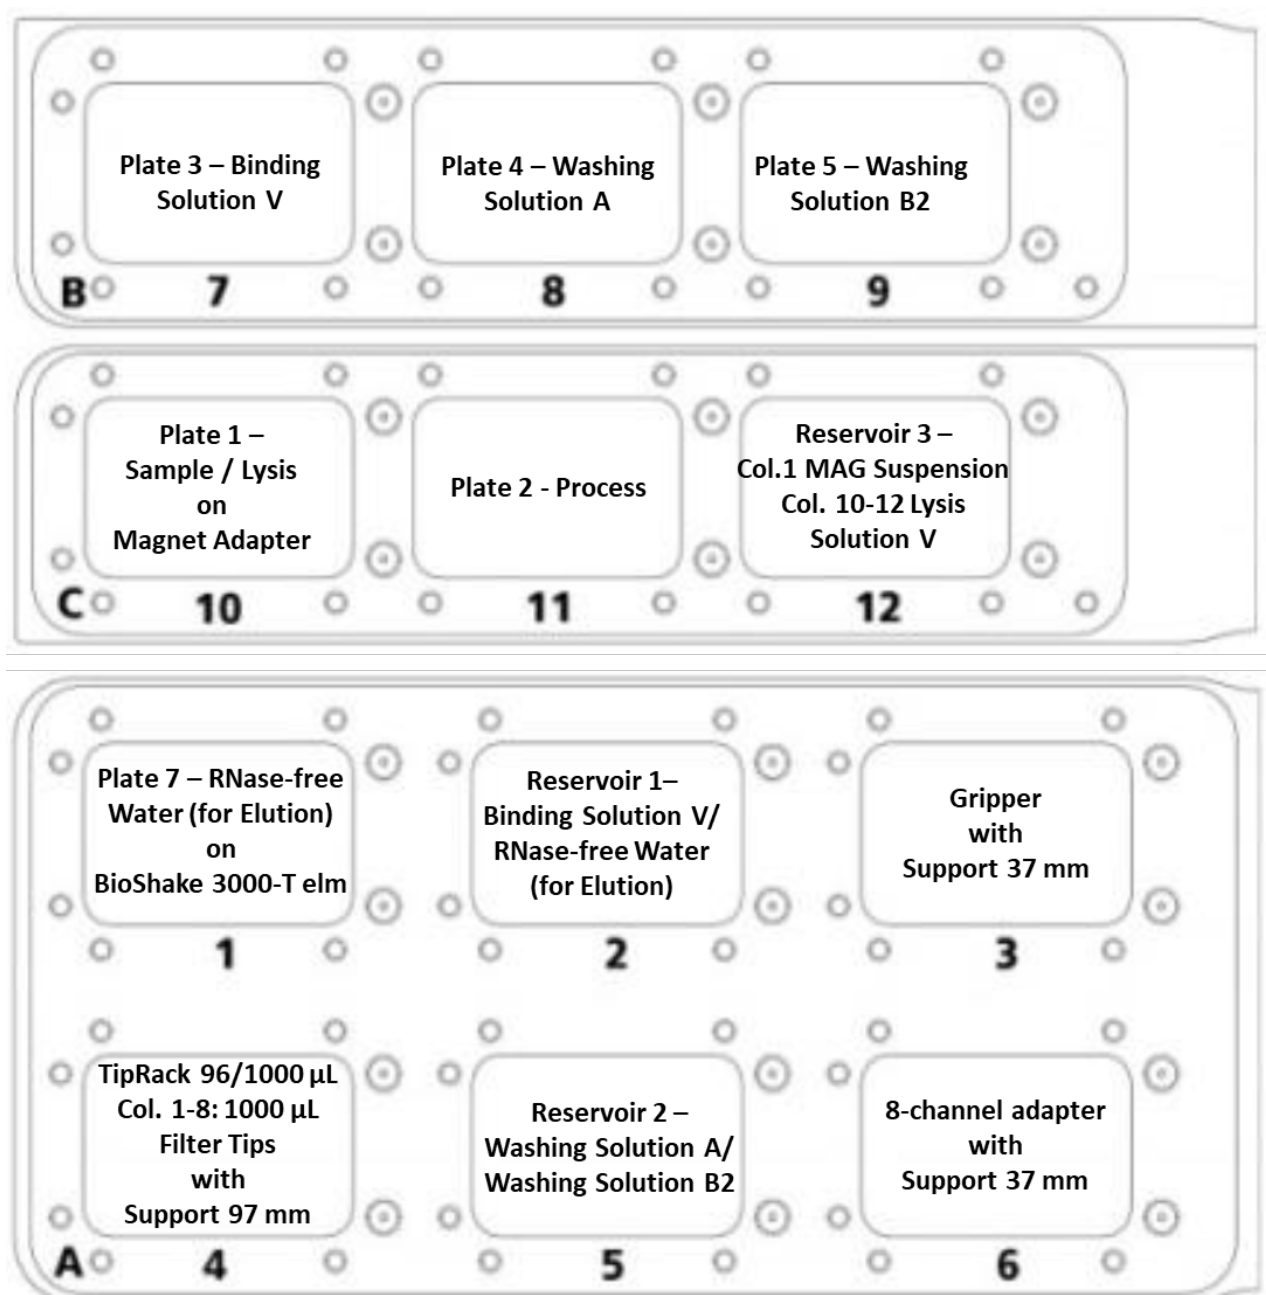

Figure 3: Deck layout for the prefilling protocol
3. Refer to Figure 3 (→ see p. 17) for the placement of the empty plates and the reservoirs filled as described below.
5. Transfer the content of one bottle "**RNase-free Water (for Elution)**" (70 mL) into the **right** side of the 2 column reservoir labeled with "Reservoir 1 - Binding Solution V/RNase-free Water (for Elution)". Place the filled reservoir into the CyBio FeliX on position 2 (→ see Figure 3).
7. Transfer the content of one bottle "**Washing Solution B2**" (120 mL) into the **right** side of the 2 column reservoir labeled with "Reservoir 2 – Washing Solution A/ Washing Solution B2". Place the filled reservoir into the CyBio FeliX on position 5 (→ see Figure 3).
9. Transfer 15 mL of the prepared **Lysis Solution V/Carrier Mix** (→ see "Usage and Preparation of Internal Controls", p. 14) in column 10, 15 mL in column 11 and 15 mL in column 12 of the reservoir labeled "Reservoir 3 – MAG Suspension / Lysis Solution V". Place the filled reservoir into the CyBio FeliX on position 12 (→ see Figure 3).
11. Place the CyBio TipRack 96/1000 µL into the CyBio FeliX on position 4 (→ see Figure 3).
12. Place the 8-channel adapter (Head R 96) with the support 37 mm into the CyBio FeliX on position 6 (→ see Figure 3).
13. Place the empty, labeled plates on the CyBio Felix deck according to the deck layout as shown in Figure 3.